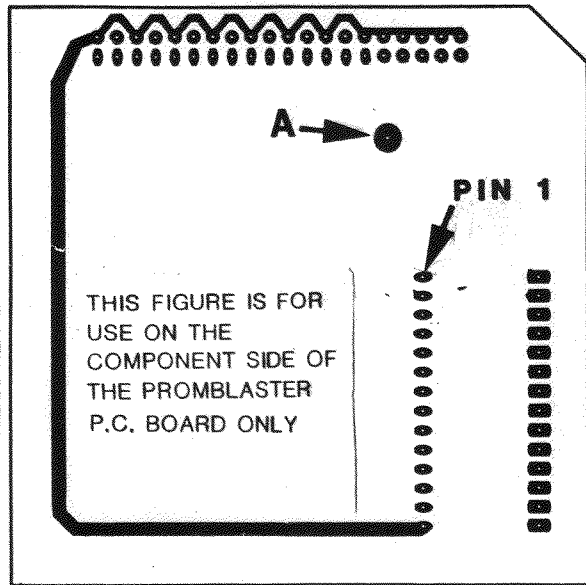

FIGURE 1
- A. Cut out Figure 1 below.
- B. Using Figure 1 as a template; line up all 28 pads on the I/C circuit outline with the inner 28 holes on U8 of the Promblaster. Carefully tape the template to the Promblaster P. C. Board.